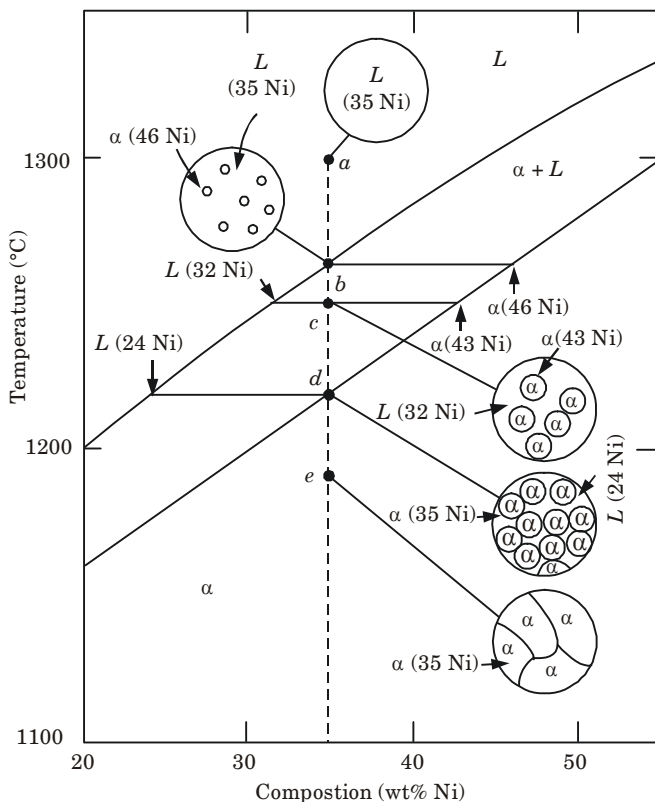

Fig. 3.10.1. Development of micro structure during equilibrium solidification of 35 % Ni-65% Cu alloy.
2. The region of the Cu-Ni phase diagram in the vicinity of this composition is shown in (Fig. 3.10.1).
10. At 1250 °C, point *c* in (Fig. 3.10.1), the compositions of the liquid and α phases are 32 wt% Ni-68 wt% Cu [L(32 Ni)] and 43 wt% Ni-57 wt% Cu [α (43 Ni)], respectively.
12. Upon crossing the solidus line, this remaining liquid solidifies, the final product then is α polycrystalline α -phase solid solution that has a uniform 35 wt% Ni-65 wt% Cu composition, point *e*. (Fig. 3.10.1).